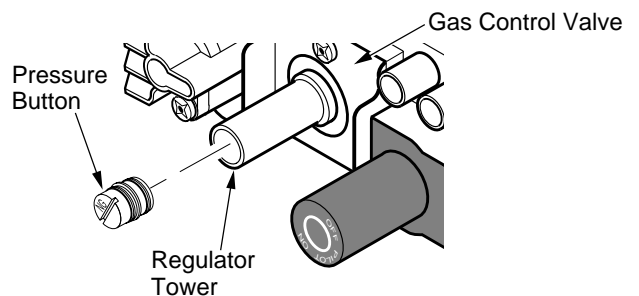

Figure 10 - Removing Pressure Button
2. Remove the pressure button from the regulator tower (see Figure 10).